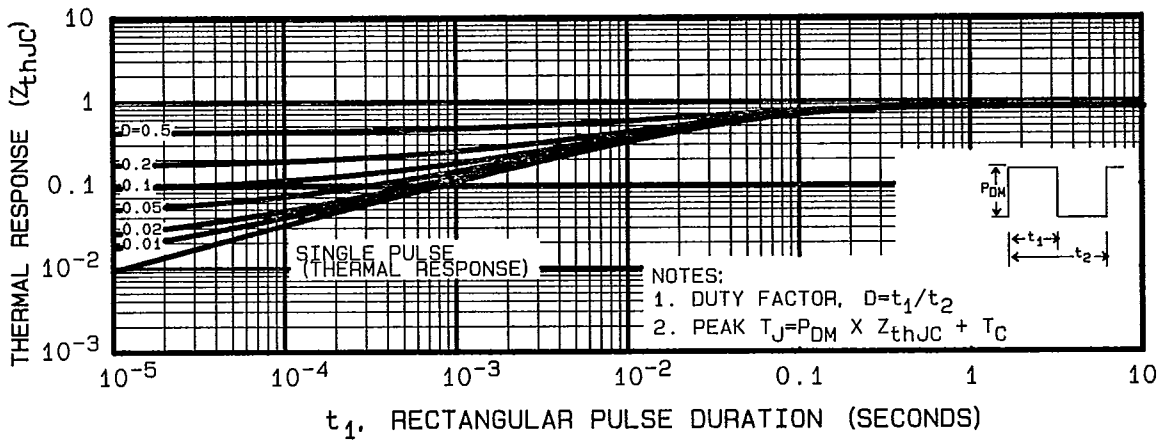

Fig. 5 — Maximum Effective Transient Thermal Impedance, Junction-to-Case Vs. Pulse Duration
① Repetitive Rating: Pulse width limited by maximum junction temperature (see figure 5) Refer to current HEXFET reliability report
② @  $V_{DD} = 50\text{V}$ , Starting  $T_J = 25^\circ\text{C}$ ,  $L = 16\text{ mH}$ ,  $R_G = 25\Omega$ , Peak  $I_L = 6.8\text{A}$
③  $I_{SD} \leq 6.8\text{A}$ ,  $di/dt \leq 80\text{ A}/\mu\text{s}$ ,  $V_{DD} \leq BV_{DSS}$ ,  $T_J \leq 150^\circ\text{C}$